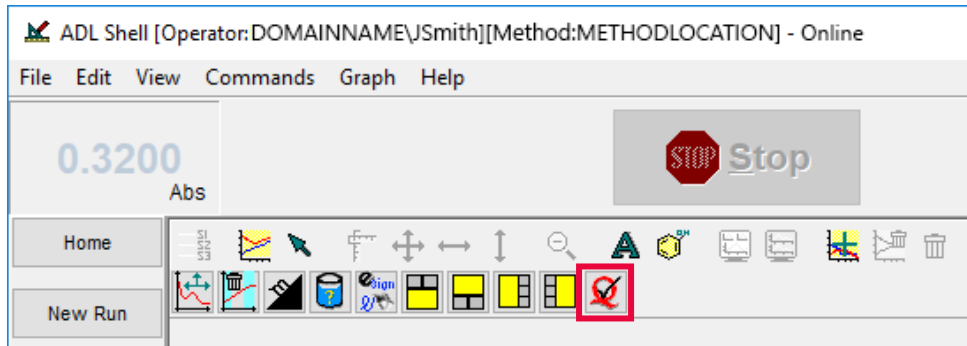
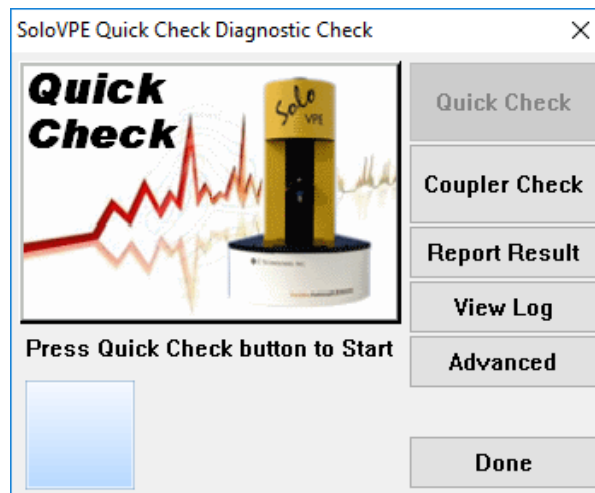

Figure 31. Quick Check button on SoloVPE toolbar.
Figure 32. Quick Check window before Coupler Check is performed.
1. Click the Quick Check button on the SoloVPE Toolbar to start Quick Check, as seen in Figure 31. The Quick Check Diagnostic Check window will appear (see Figure 32).